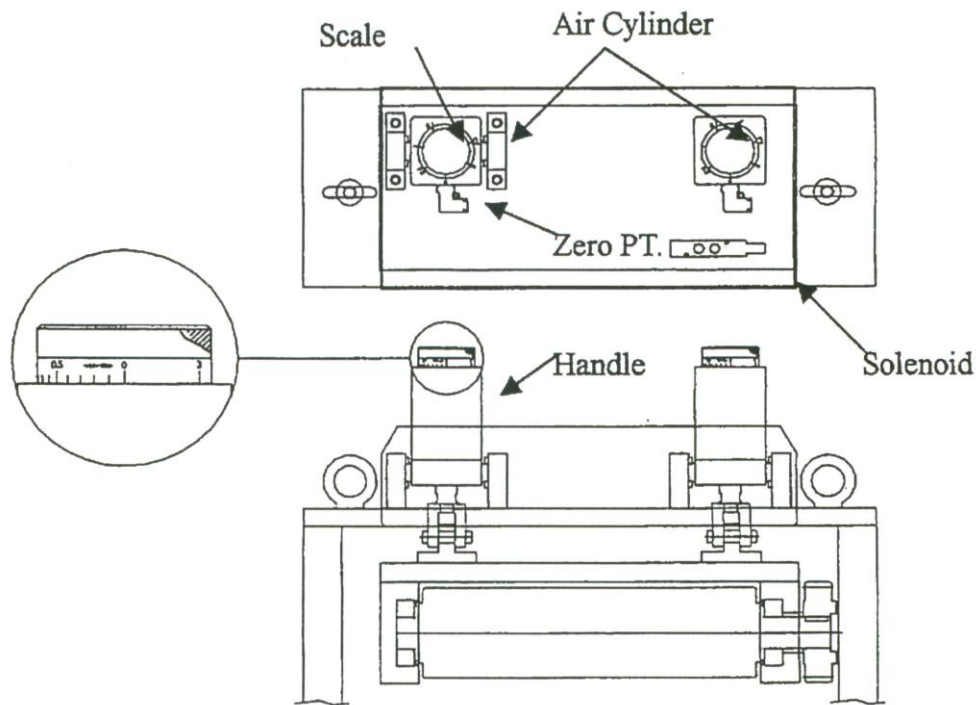

FIGURE 3A
2. Adjust for the material thickness using the (2) Cylinder Thickness Adjustment dials. Adjust the dials to the required setting for your material. (0-3mm range) Refer to the **FIGURE 3A** for proper setting
The pneumatic pilot release is controlled by a solenoid valve connected to (2) pneumatic cylinders. Once the material thickness is set correctly (Ref Figure 3A) no further action is required.